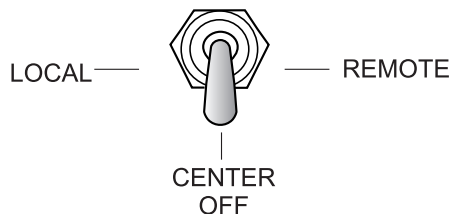

Figure 22. Pumping Control Switch (OFF)
3. Place the **pumping control switch** in the **CENTER OFF** position (Figure 22) for normal pumping operation.